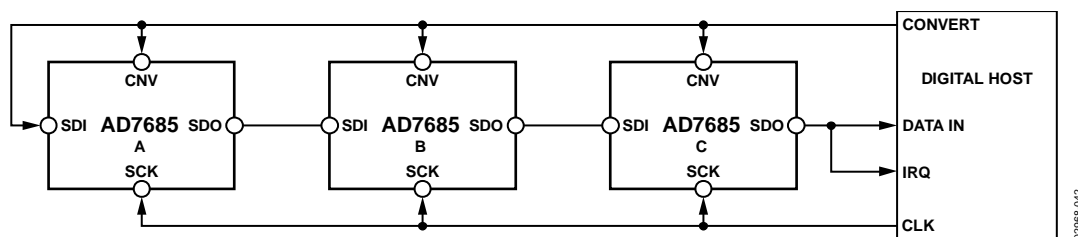
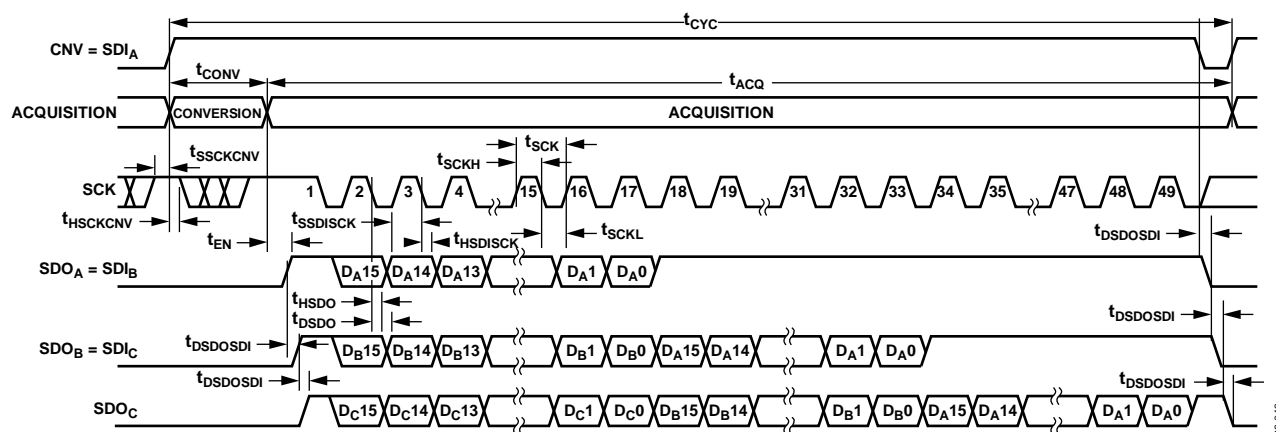

Figure 44. Chain Mode with BUSY Indicator Connection Diagram
Figure 45. Chain Mode with BUSY Indicator Serial Interface Timing
- In the chain mode, if SCK is high during the CNV rising edge (see Figure 45).
A connection diagram example using three AD7685s is shown in Figure 44, and the corresponding timing is given in Figure 45.
Figure 44) SDO is driven high. This transition on SDO can be used as a BUSY indicator to trigger the data readback controlled by the digital host. The AD7685 then enters the acquisition phase and powers down. The data bits stored in the internal shift register are then clocked out, MSB first, by subsequent SCK falling edges. For each ADC, SDI feeds the input of the internal shift register and is clocked by the SCK falling edge. Each ADC in the chain outputs its data MSB first, and $16 \times N + 1$ clocks are required to readback the N ADCs. Although the rising edge can be used to capture the data, a digital host also using the SCK falling edge allows a faster reading rate and, consequently, more AD7685s in the chain, provided the digital host has an acceptable hold time. For instance, with a 5 ns digital host setup time and 3 V interface, up to eight AD7685s running at a conversion rate of 220 kSPS can be daisy-chained to a single 3-wire port.